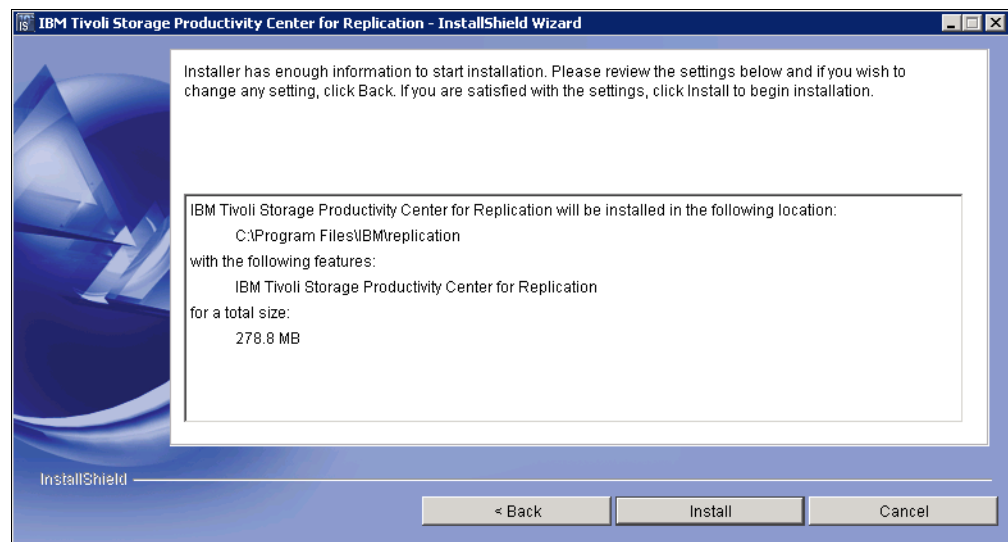

Figure 12-34 Tivoli Storage Productivity Center for Replication installation summary
14.Review the installation summary and click **Install** (Figure 12-34).